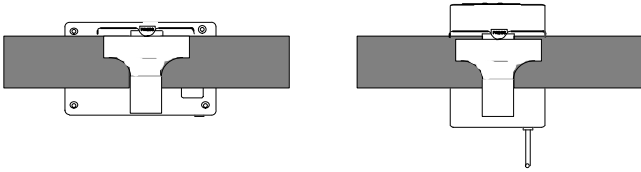

FIGURE 10
1. Attach the transmitter to your belt or waistband as shown in Figure 10. Depress the tab marked PRESS and slip the belt or strap between the transmitter body and the belt clip. The clip holds tighter if the material is drawn to the clip's top wire.